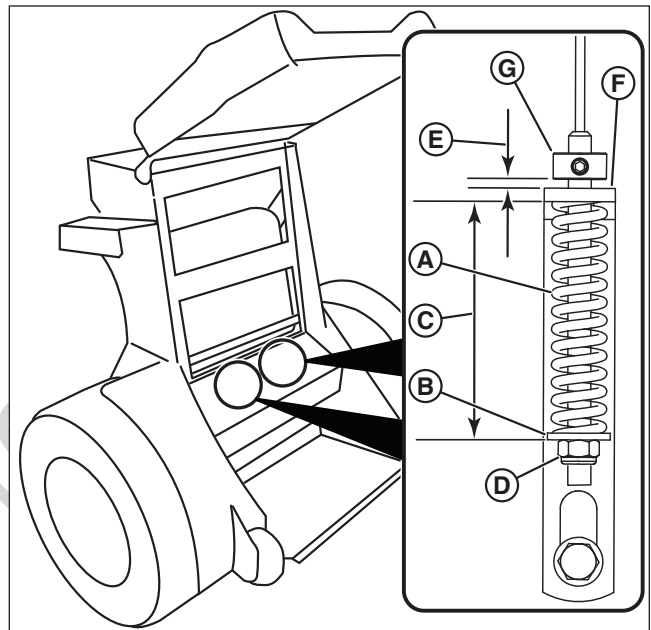

Figure 3. Parking Brake Adjustment
3. Locate the two parking brake springs (**A**, **Figure 3**) below the engine deck by the unit's transaxles.
4. Measure the distance from the end of the spring to the bottom face of the flat washer (**B**). This measurement is identified as "**C**" in **Figure 3**. The measurement should equal 2-3/4" (7,0 cm). If not, position the adjustment nut (**D**) until the measurement equals 2-3/4" (7,0 cm).